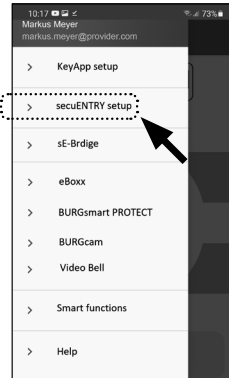

Fig. 54
- ② Tap on the menu item "secuENTRY setup" (Fig. 54).